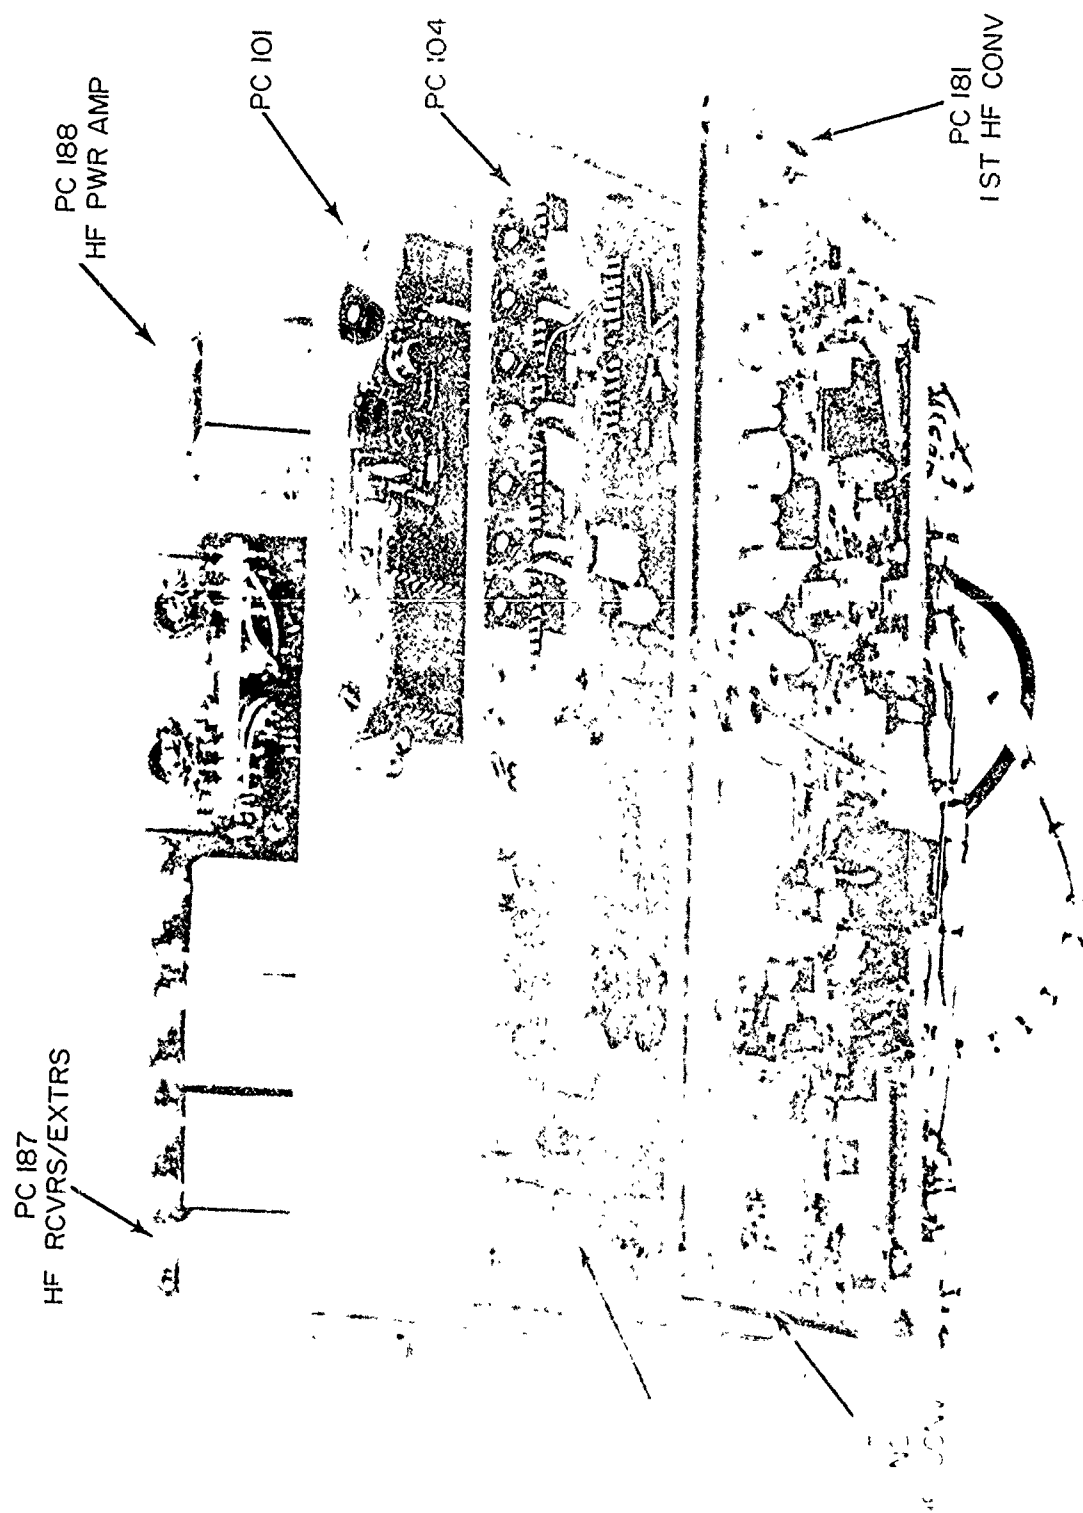

Fig. 4-2. Buoy electronics: HF and logic side
a. HF TRANSCEIVER (Fig. 4-2) - Crystals Y1, Y2, Y3, and Y4 on PC-181 are the first heterodyne crystals for HF channels 1 through 4 respectively. Crystal frequency F_x is calculated by the formula
Tune the RF TUNED CIRCUITS and MATCHING NETWORKS (Fig. 4-2). It may be necessary to replace the MATCHING NETWORK if the change in frequency is great enough.